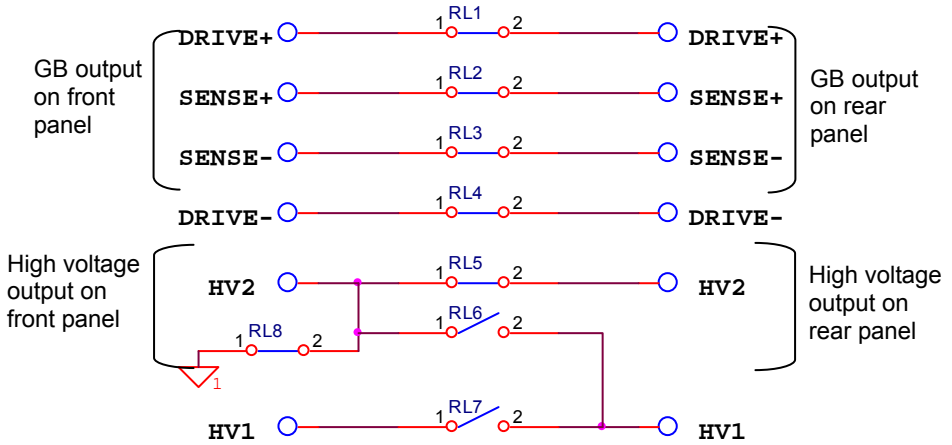

Figure 4-14
- iv. When Channel 3 set to \times and HV1 terminal on rear panel set to Floating, connection diagram of front panel terminal and rear panel terminal is as Figure 4-14 shown: